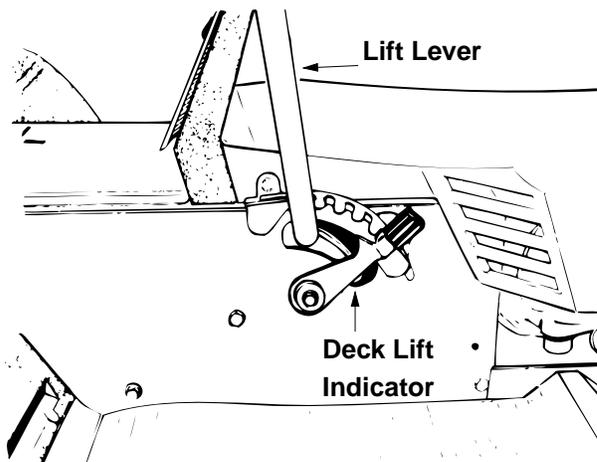

Figure 14
**NOTE:** *The lift lever **must** be in the BLADES STOP position when starting the engine, when shifting into reverse and if the operator leaves the seat. See Figure 14.*
If so equipped, the deck lift indicator marks the position being used for the lift lever. Select the lift lever position desired, press the indicator lever outward, move it to the position immediately below the lift lever and release the indicator lever. See Figure 14.